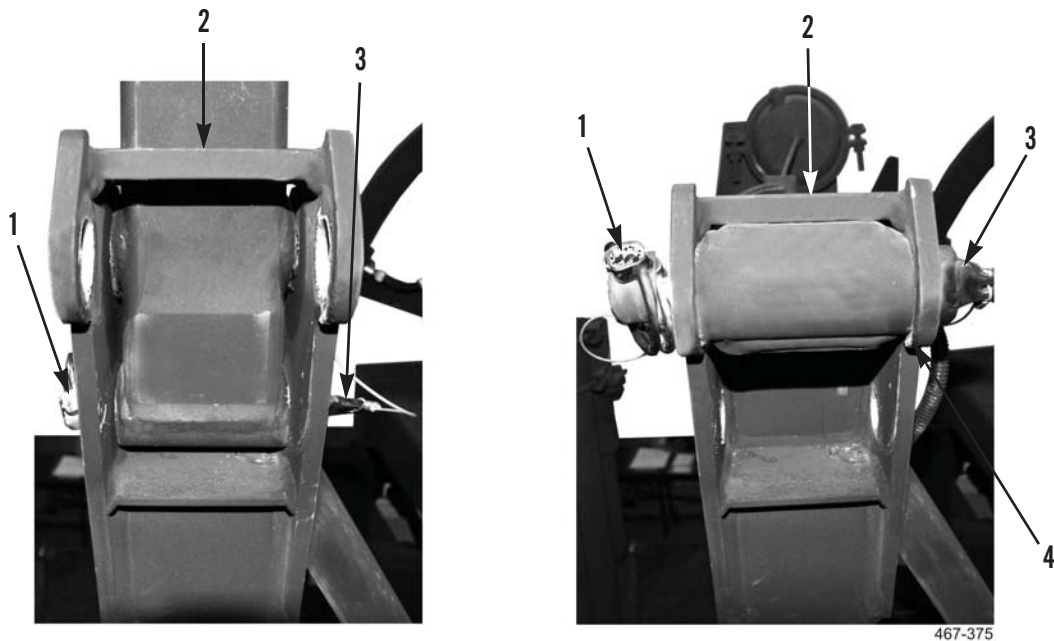

Figure 10. Raise Latch Support Beam.
5. Remove clip pin (Figure 10, Item 1) from locking pin (Figure 10, Item 3).
6. Remove locking pin (Figure 10, Item 3) from upper position on latch support bracket (Figure 10, Item 4).
7. Raise latch support beam (Figure 10, Item 2) to vertical position and install locking pin (Figure 10, Item 3) in latch support bracket (Figure 10, Item 4).
8. Install clip pin (Figure 10, Item 1) in locking pin (Figure 10, Item 3).